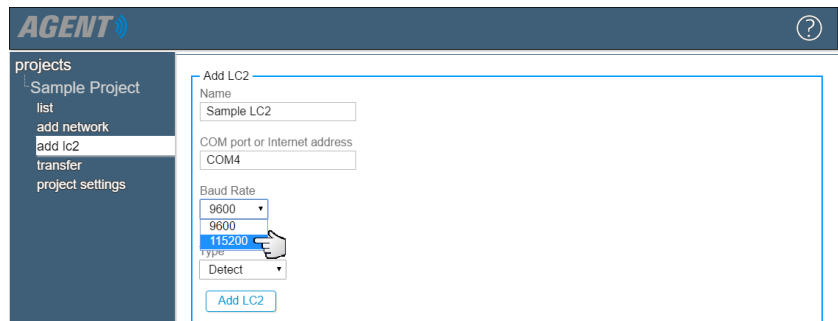

FIGURE 89: Select a Baud Rate
- For all new LC2 dataloggers, select the 9600 baud rate (*Figure 89*). A baud rate of 9600 is required for single channel LC2 dataloggers running firmware prior to version 5.2.X and for multichannel LC2 dataloggers running firmware prior to version 3.1.X.